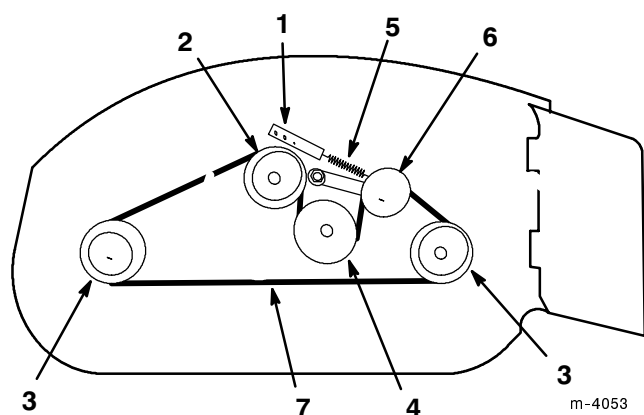

Figure 23
2. Grease the fittings on the three spindle bearings and the idler arm (Fig. 23).
- Remove nut securing spring anchor to housing and lift spring anchor from bolt (Fig. 23).
- Remove the worn mower belt (Fig. 23).
- Install new mower belt around the three spindle pulleys, the idler pulley, and the gearbox pulley (Fig. 23).
- Pull on the spring anchor and connect to anchor bolt (Fig. 23).